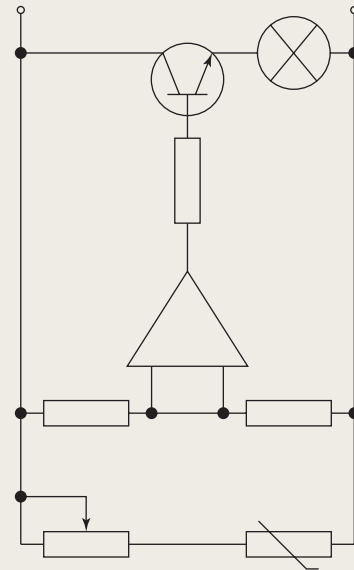

Fig. 9.23 Exercise 4
4. Construct the electronics circuit given in Fig. 9.23 from the file **electronics.dwg** using the **DesignCenter**.